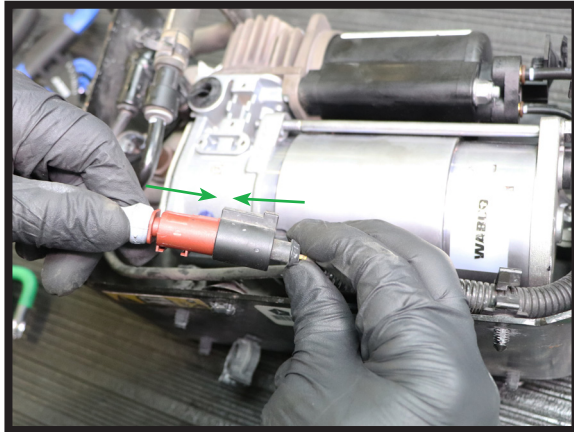

FIGURE 34
8. CONNECT THE NEW COMPRESSOR ELECTRICAL CONNECTION PICTURED BELOW TO THE EXISTING WIRE HARNESS ALREADY ATTACHED TO THE COMPRESSOR/VALVE BLOCK ASSEMBLY. (FIGURES 34, 35)